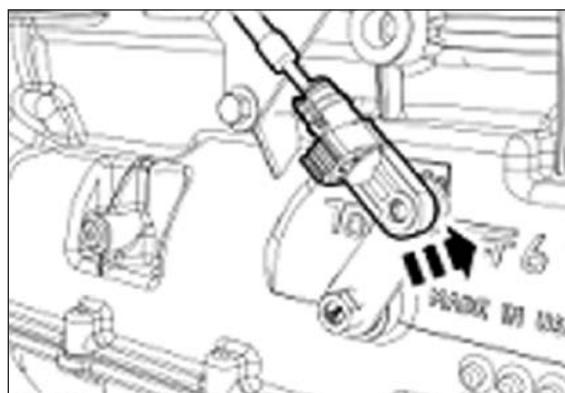

Figure 89
7. Connect the selector lever cable onto manual control lever (**Fig. 89**).